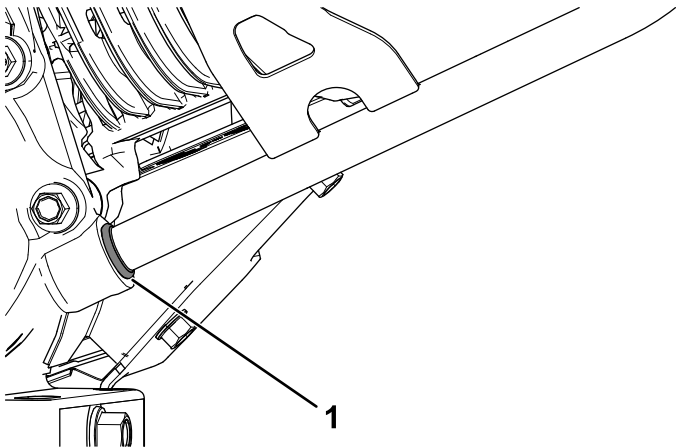

Figure 10
7. Ensure that the bottom of the dipstick tube is flush with the tube opening (Figure 10).